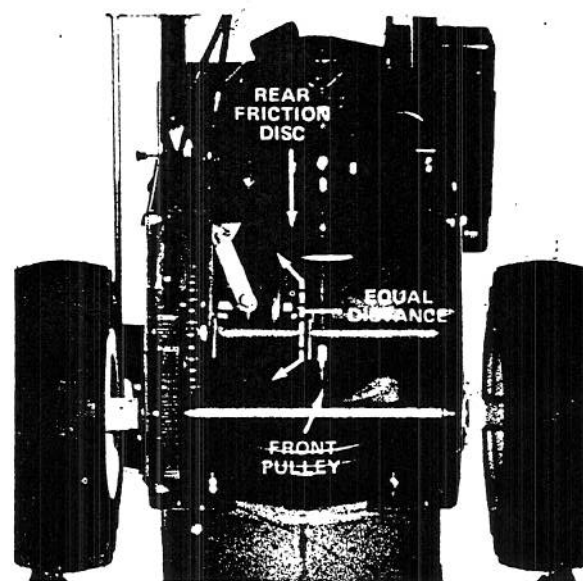

Figure 34
5. Top and bottom surface of rubber drive wheel must be an equal distance from the friction disc and pulley (Fig. 34). If distance is the same, proceed to step 8. If distance is not the same, proceed to step 6.